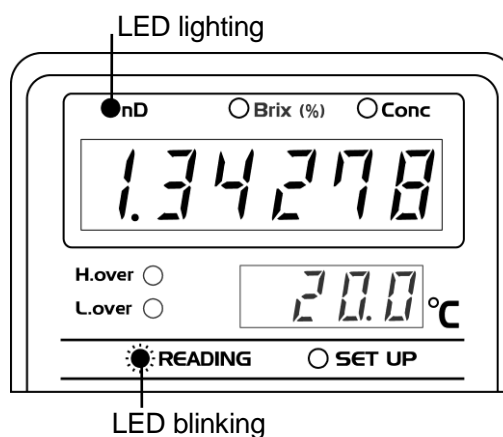
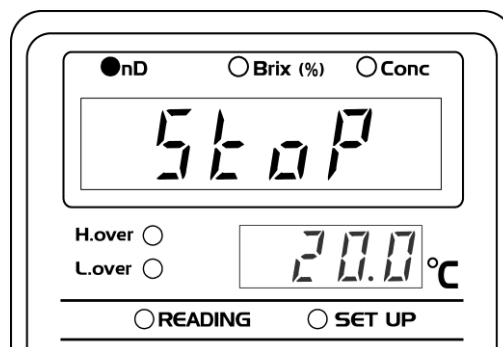

Fig. 10-1
Fig. 10-2
(1) Common Operation
(2) Change from nD Mode to Brix
- During measurement, the **READING** light blinks and the display will show nD readings (Fig. 10-1). By pressing the **START/STOP** key, the **READING** light will turn off and "StoP" will display, ceasing measurement (Fig. 10-2). The "nD" light will remain illuminated.
By pressing the **START/STOP** key, the **READING** light will turn off, and "StoP" will display, ceasing measurement (Fig. 10-2).